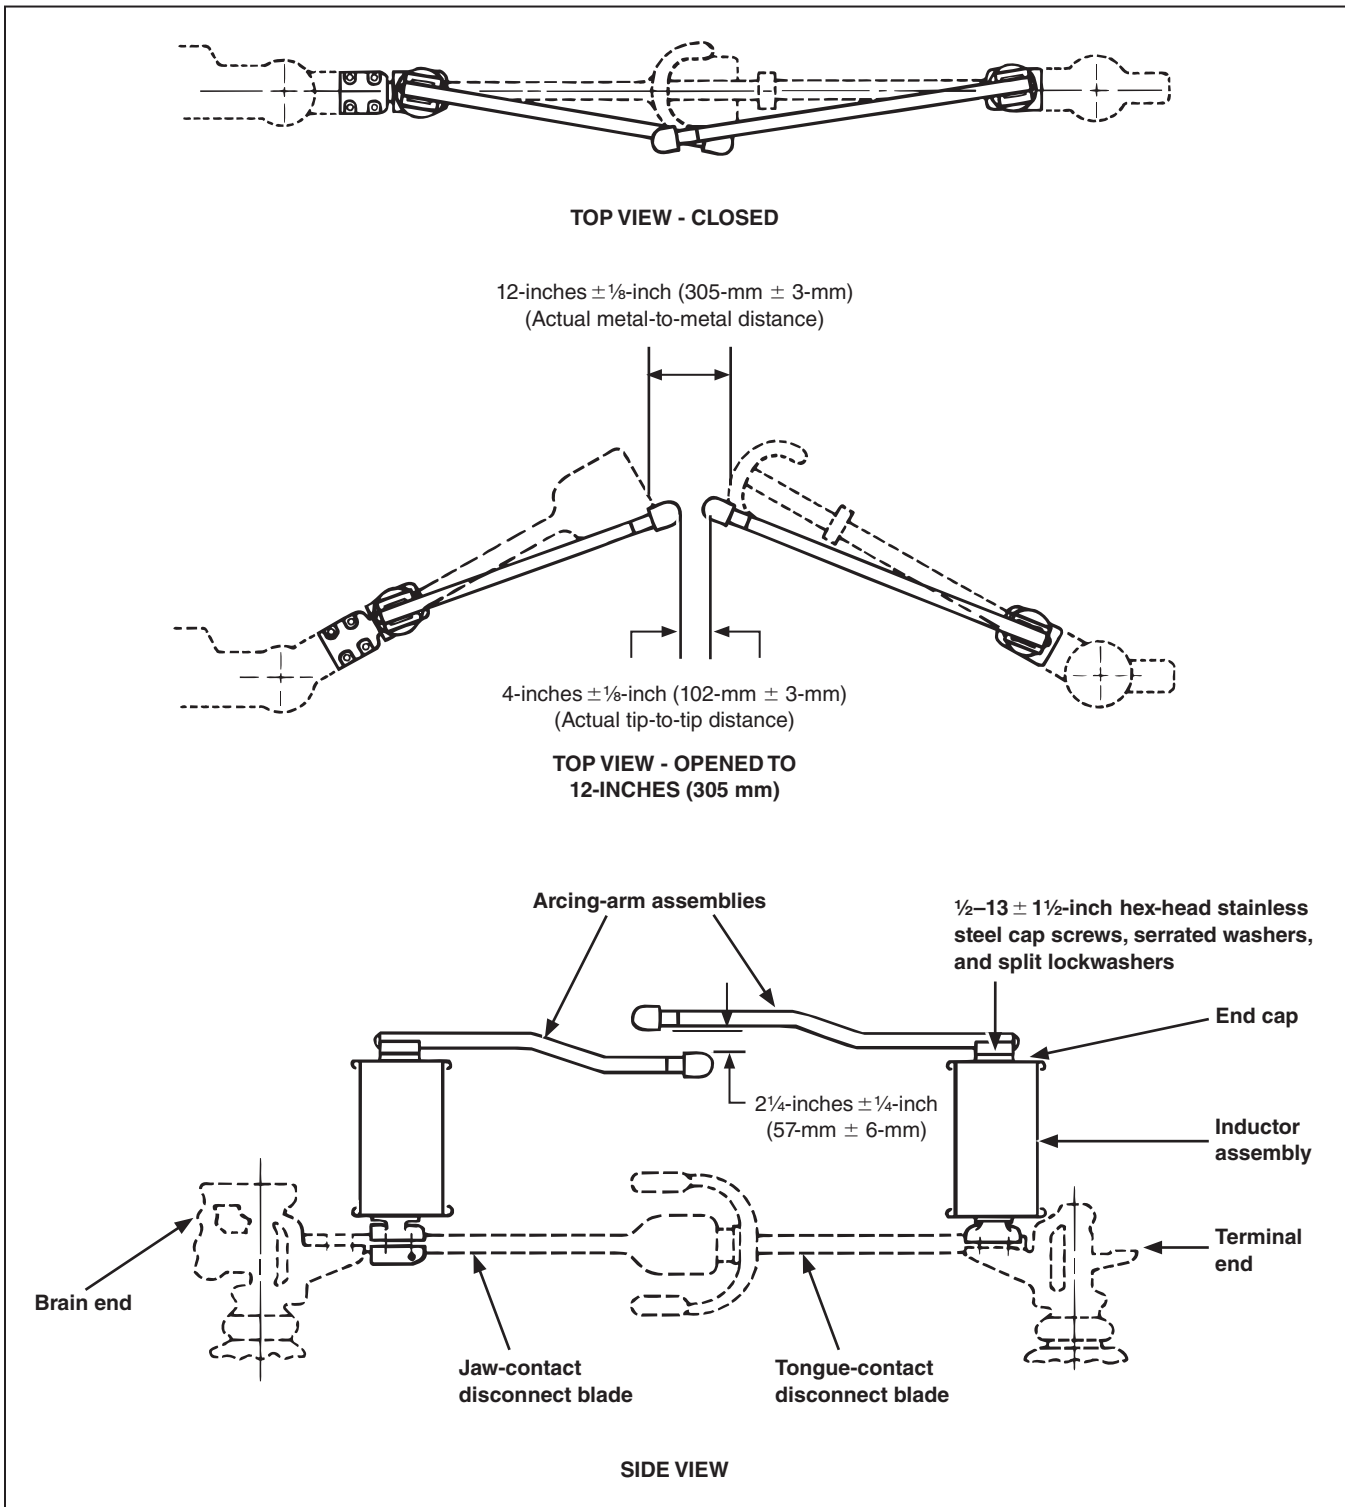

Figure 15. Assembly details of pre-insertion inductors for 230-kV and 345-kV center-break style circuit-switchers. 230-kV circuit-switcher illustrated.
attach a second inductor mounting adapter to the jaw-contact disconnect blade, using the blade clamp which was removed as directed in (a), positioned as shown in Figure 15 on page 26, side view. Make sure the inductor mounting surface of the adapter is level. Then fully tighten the cap screws.
**STEP 3.** Attach the arcing-arm assemblies to the inductor assemblies as shown in Figure 15 on page 26, side view, using four  $\frac{1}{2}$ -13  $\times$  1 $\frac{1}{2}$ -inch hex-head stainless steel cap screws, serrated washers, and split lockwashers. Mounting holes of inductor arm assemblies are slotted to permit adjustment of arm.
**STEP 4.** Manually open the circuit-switcher to the point where the arcing-arm tips are aligned vertically, i.e., tip over tip. At this point of minimum separation, adjust the arms to obtain a clearance equal to Dimension A, as shown in Figure 15 on page 26, side view. If necessary, use the special shims (furnished) between the arcing-arm assemblies and the inductor assemblies to attain this clearance.
**STEP 5.** Continue opening the circuit-switcher until reaching the point where the metal-to-metal separation between the disconnect blades is equal to Dimension B, as shown in Figure 15 on page 26, top view. Then, while maintaining this disconnect-blade positioning, loosen the four  $\frac{1}{2}$ -13  $\times$  1 $\frac{1}{2}$ -inch hex-head stainless steel cap screws securing each arcing-arm assembly and adjust the angle of both arcing arms by equal amounts to obtain a separation equal to Dimension C, as shown in Figure 15 on page 26, top view.
At the location indicated in Figure 15 on page 26, side view, remove one of the  $\frac{1}{2}$ -13  $\times$  1 $\frac{1}{2}$ -inch hex-head stainless steel cap screws from the blade clamp at the jaw-contact end of the disconnect blade (not applicable to 345-kV circuit-switchers). At the inside corner of the bolt cavity, drill a  $\frac{5}{16}$ -inch diameter hole through the clamp and the wall of the disconnect blade. Aim the drill to enter the blade on center. Insert the  $\frac{5}{16}$ -inch diameter Spirol pin furnished. Replace and fully tighten the clamp bolt.